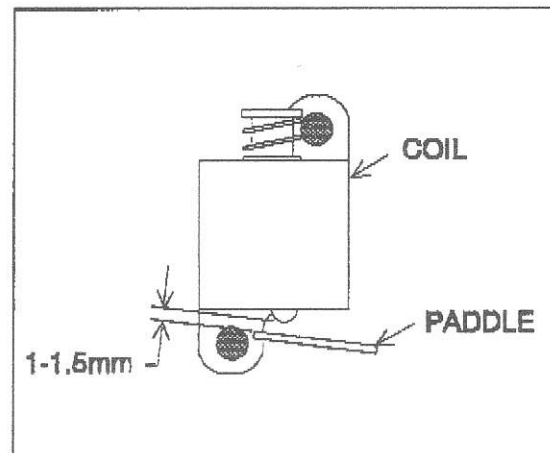

Fig. 64 Wipe Measurement
- 6) Position the new coil on the base with the coil end containing the screw head facing the paddle. Maintain a wipe measurement of 1-1.5mm (Fig. 64). Alternate the tightening of the coil mounting screws until a torque of 20kg-cm (1.4ft-lb) is reached.